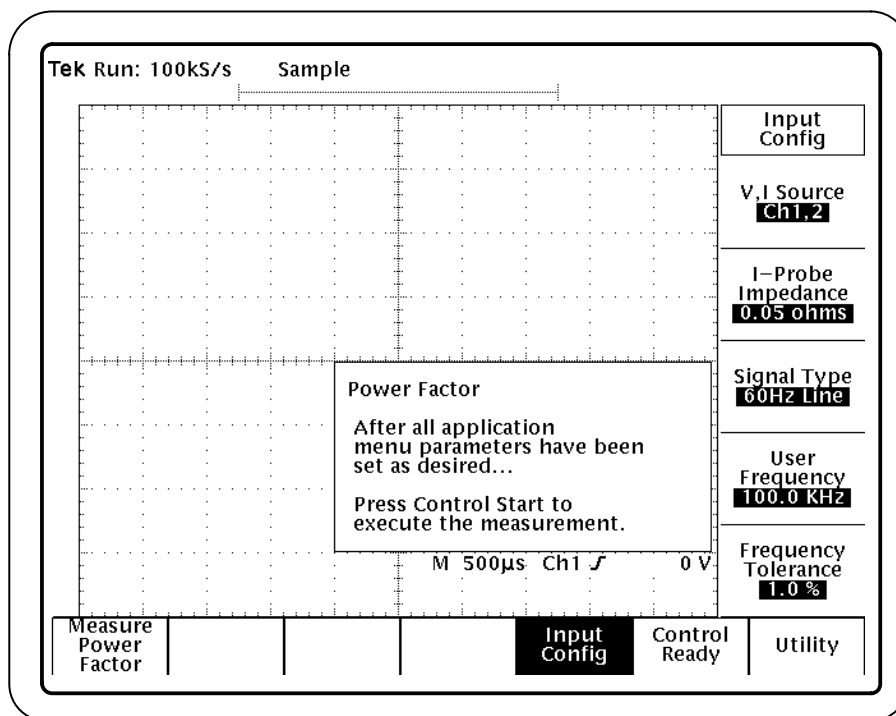

Figure 38: Power Factor Input Config menu
To set up the Power and Energy mode, refer to Figure 38, and follow these steps:
1. Press Input Config (main). You can configure the source of input data and the probe impedance, if need be. Figure 38 shows the Input Config menu.